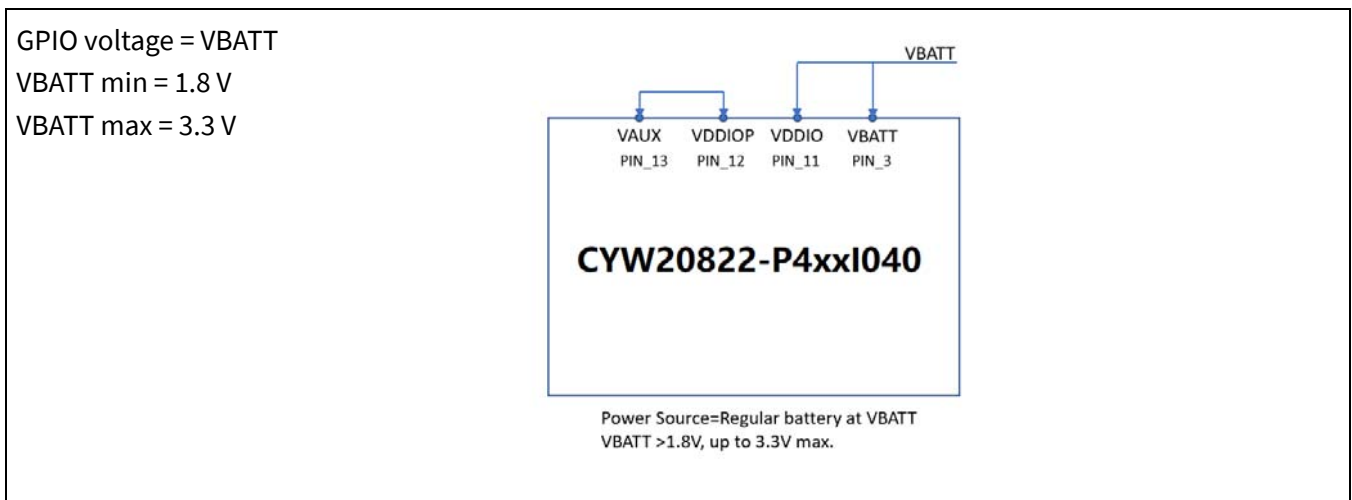

Figure 9 Regular battery, External I/O supply
- For applications that cannot support fixed 1.8 V I/O supply (see Figure 9).